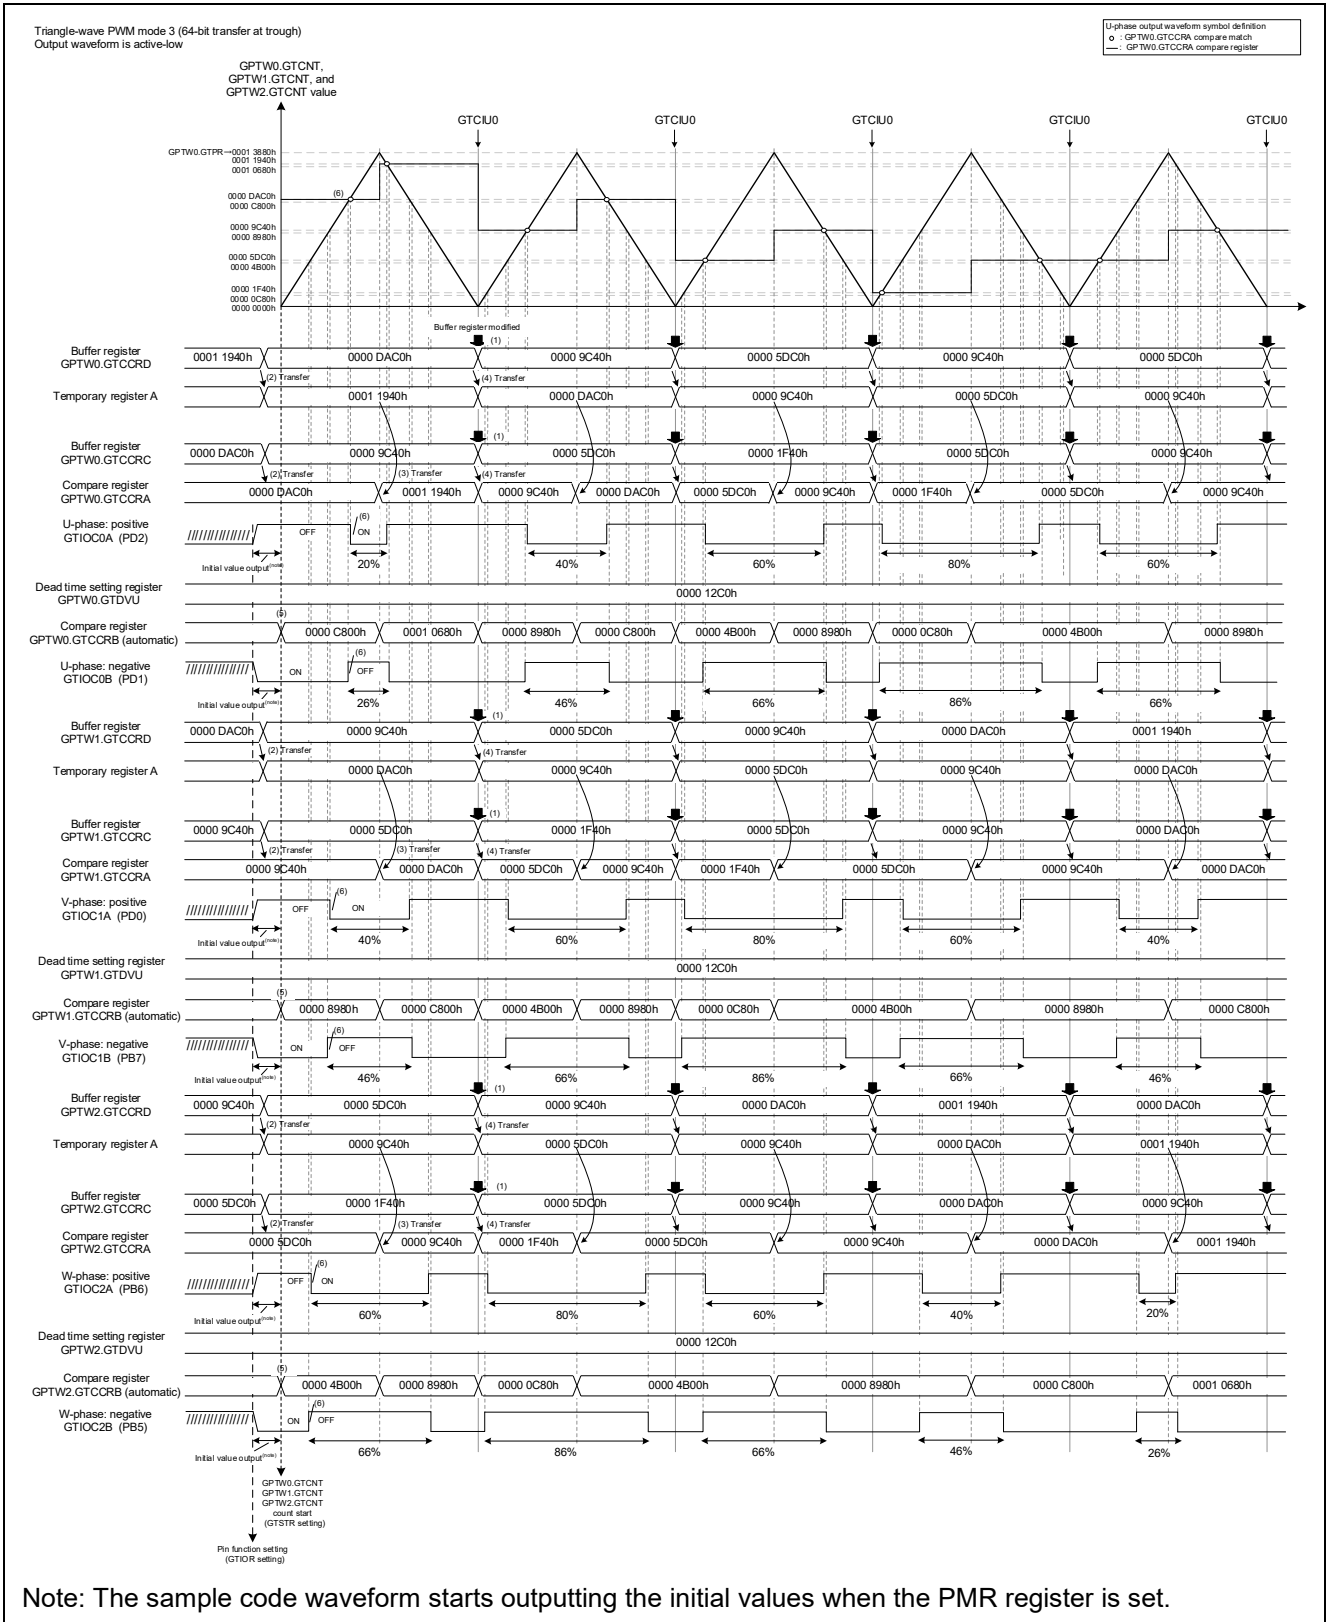

Figure 4.69 Sample Code Operations
- Refer to Figure 4.69 for details on duty change timing
The sample code operations are shown in Figure 4.69. The settings of the duty cycle are changed with each period by modifying the value of buffer registers GTCCRC and GTCCRD at the GTCNT counter underflow interrupt (GTCIU0) ((1) in Figure 4.69).
The initial values of the buffer registers for the code generated using the Smart Configurator are set to the same value as the compare register. As a result, the buffer register values are set in the user initialization function R\_Config\_GPT0\_Create\_UserInit before the counting starts. The values set in the registers are transferred from buffer register GTCCRD to temporary register A and from buffer register GTCCRC to compare register GTCCRA, respectively, by forced buffer transfers ((2) in Figure 4.69).
This sample code uses triangle-wave PWM mode 3 to update data by transferring temporary register A to compare register GTCCRA when a GTCNT counter overflow (crest) occurs ((3) in Figure 4.69) and transferring buffer register GTCCRD to temporary register A, and buffer register GTCCRC to compare register GTCCRA when a GTCNT counter underflow (trough) occurs ((4) in Figure 4.69).
After counting starts, a compare match occurs between the compare register and the counter register, negative-phase output turns OFF, and then positive-phase output turns ON ((6) in Figure 4.69).